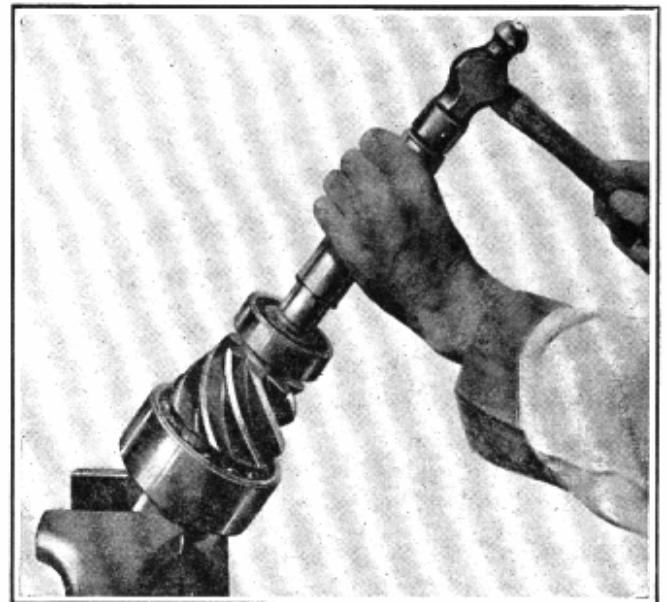

Fig. 11—Installing Lock Ring
2. Press the Hyatt roller bearing on the end of the shaft with the chamfered side of the inner race toward the pinion. Install the lock ring, using the lock ring installer J-1364, Fig. 11.